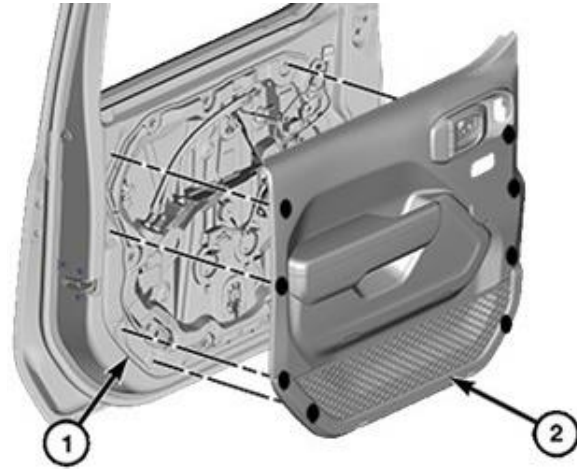

Figure 5 – Door Trim Panel
9. Separate the door trim panel assembly (2) from the door (3) (Figure 5).